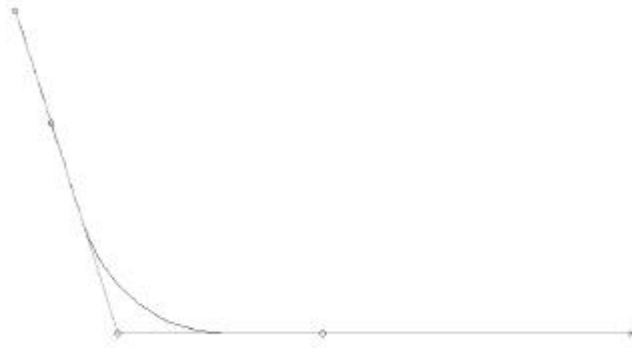

Figure 5-3: Midship Curve, Front View
9. Repeat steps 7 and 8 until the shape of the curve *Midship* matches the curve *Midship Section*. (See figure 5-3.)